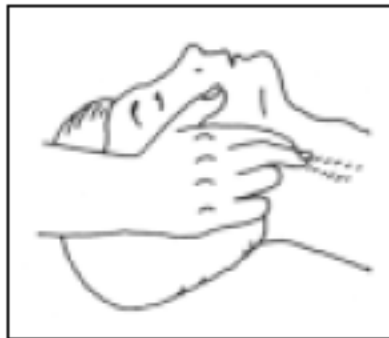
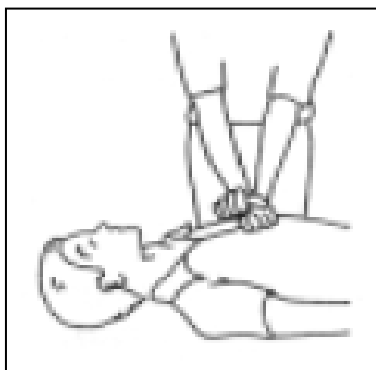
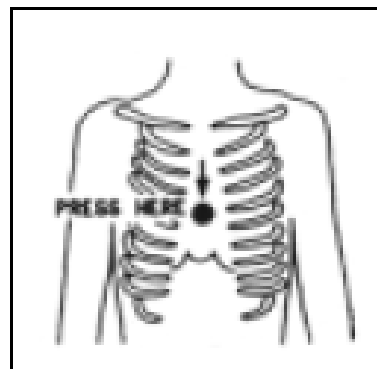

Figure 3: Resuscitation detail – 3.
Figure 4: Resuscitation detail – 4.
Figure 5: Resuscitation detail – 5.
- Check the pulsation (Figure 3); in case of absence of pulsation, start immediately the cardiac massage (Figure 4) pressing the breastbone in the middle of the thorax (Figure 5).